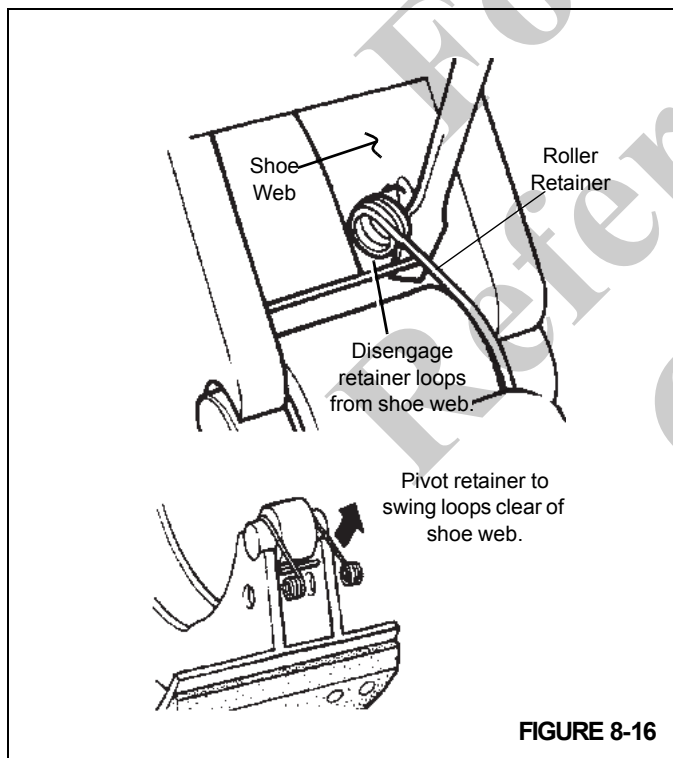

FIGURE 8-16
8. Pry the roller retainer loops out of the shoe web holes (see Figure 8-16). Pivot the roller retainer to swing the loops clear of shoe webs.